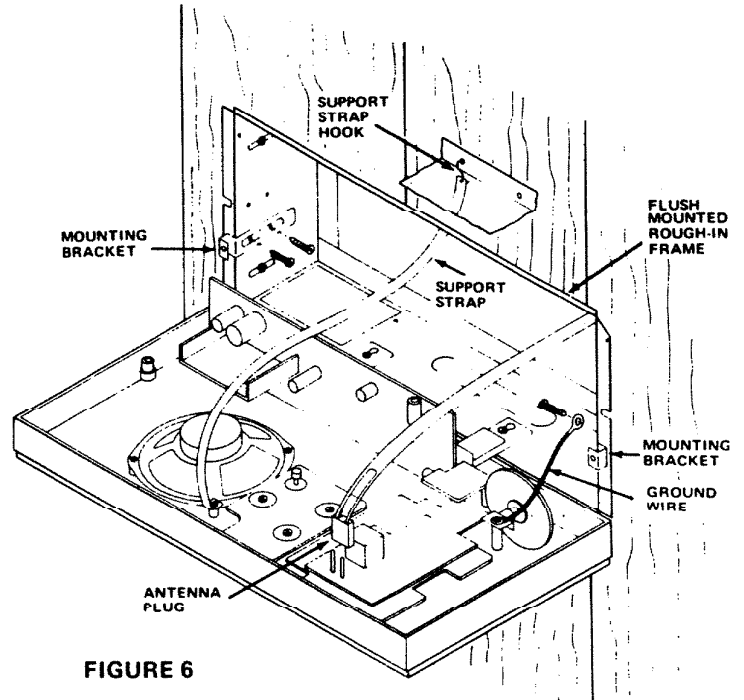

FIGURE 6
6. Attach support strap to rough-in by placing hook into hole in rear flange of rough-in frame. See Figure 6.
7. Use two No. 6 x 3/8" screws to attach mounting brackets to rough-in frame. Secure ground wire lug under one screw in the right side bracket. Make sure brackets flush to wall or rough-in. See Figure 6.
8. Place antenna plug onto two pins on tuner board. See Figure 6.